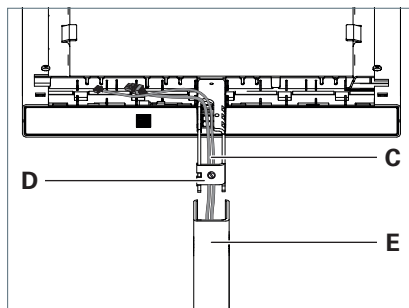

Fig. 2: Mount the luminaire head on the column.
- ▶ Route the cables **C** from below through the supporting arm **D** on the luminaire head and insert the supporting arm completely into the column **E**, see Fig. 2.